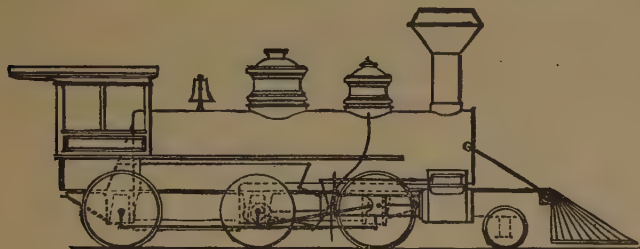
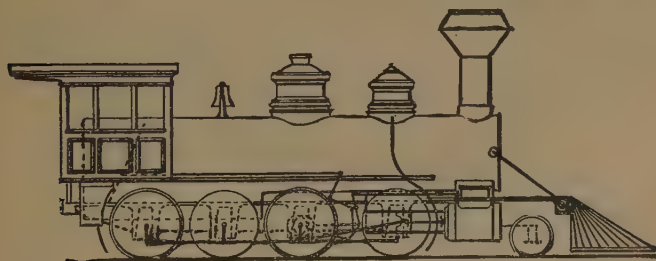
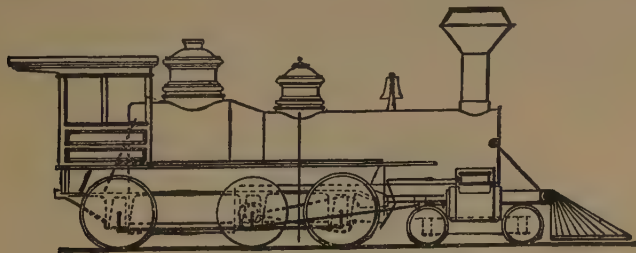
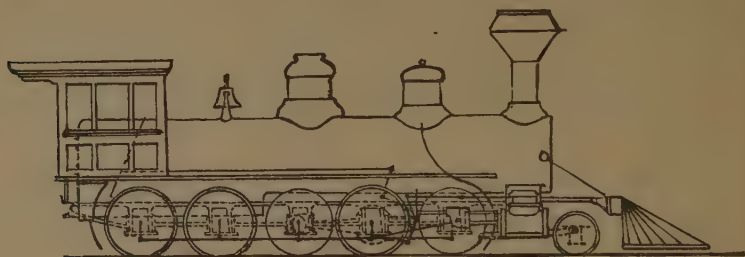

Fig. 8. Mogul Freight Engine with Tender
Fig. 9. Consolidation Engine for Heavy Freight.
Fig. 10. Ten-wheeler for Fast Freight.
Fig. 11. "Decapod" for Heavy Freight.
A. More drivers are added, as in (1) the Mogul (Fig. 8), in which there are three pairs of drivers and a pony or two-wheel truck; (2) the consolidation, in which there are four pairs of drivers and a two-wheel truck (Fig. 9); (3) the ten-wheeler, in which there are three pairs of drivers and a four-wheel truck (Fig. 10); (4) the twelve-wheeler, in which there are four pairs of drivers and a four-wheel truck; and (5) the decapod, in which there are five pairs of drivers and a two-wheel truck. (Fig. 11.)
A. The ten-wheeler is coming into great favor for this purpose; having six wheels coupled and a four-wheeled truck, as shown in Fig. 10, page 27.
A. (1) The consolidation, having eight wheels coupled and a pony truck in front as shown in Fig. 9, and (2) the decapod, having ten wheels coupled and a pony truck, as shown in Fig. 11.
A. In the Mogul the front drivers are nearly as far from the main or middle driver as the back drivers are; in the ten-wheeler, Fig. 10, by reason of the back truck-wheels, which